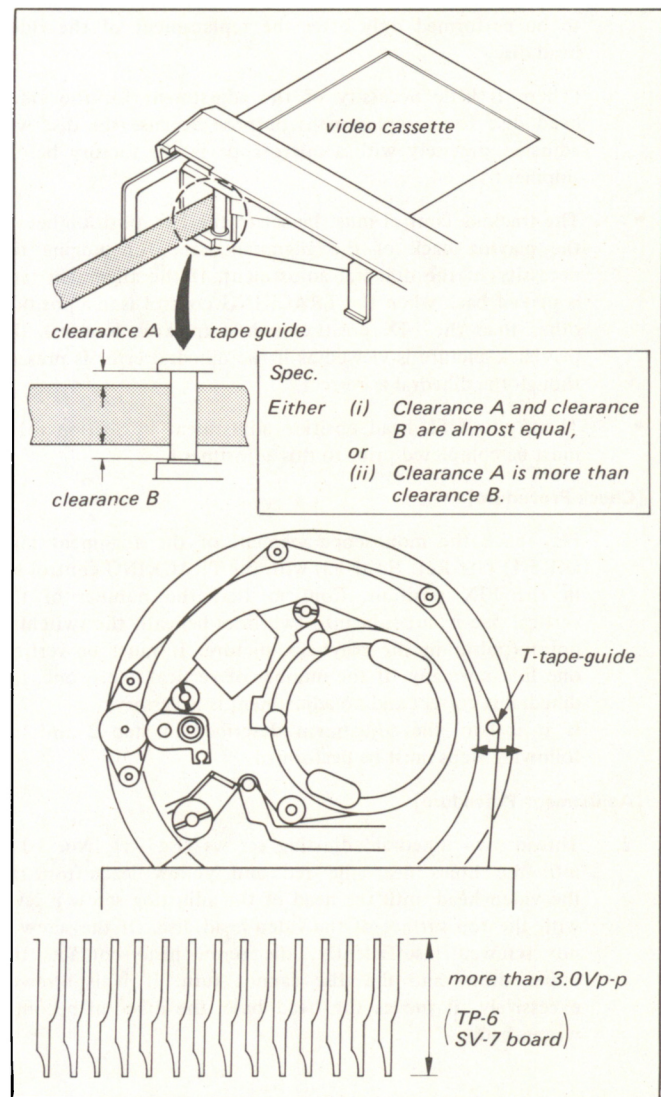

Fig. 8-10. Tape run adj.
2. Confirm with using the inspection mirror (Jig Ref. No. J-10) that the take-up side tape guide has the specified positional relationship with the tape inside the cassette as shown in Fig. 8-10.
5. Bend the T-tape-guide shaft shown in Fig. 8-10 in the direction shown by the arrow for obtaining the specifications in Steps 2, 3, and 4.